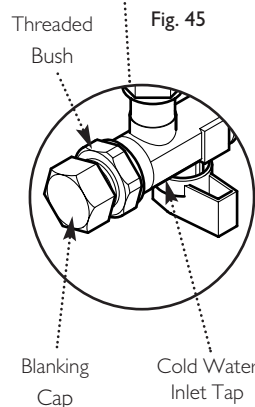

Fig. 45
20. Turn the tap off. Undo the blanking cap and remove the threaded bush (Fig. 45).